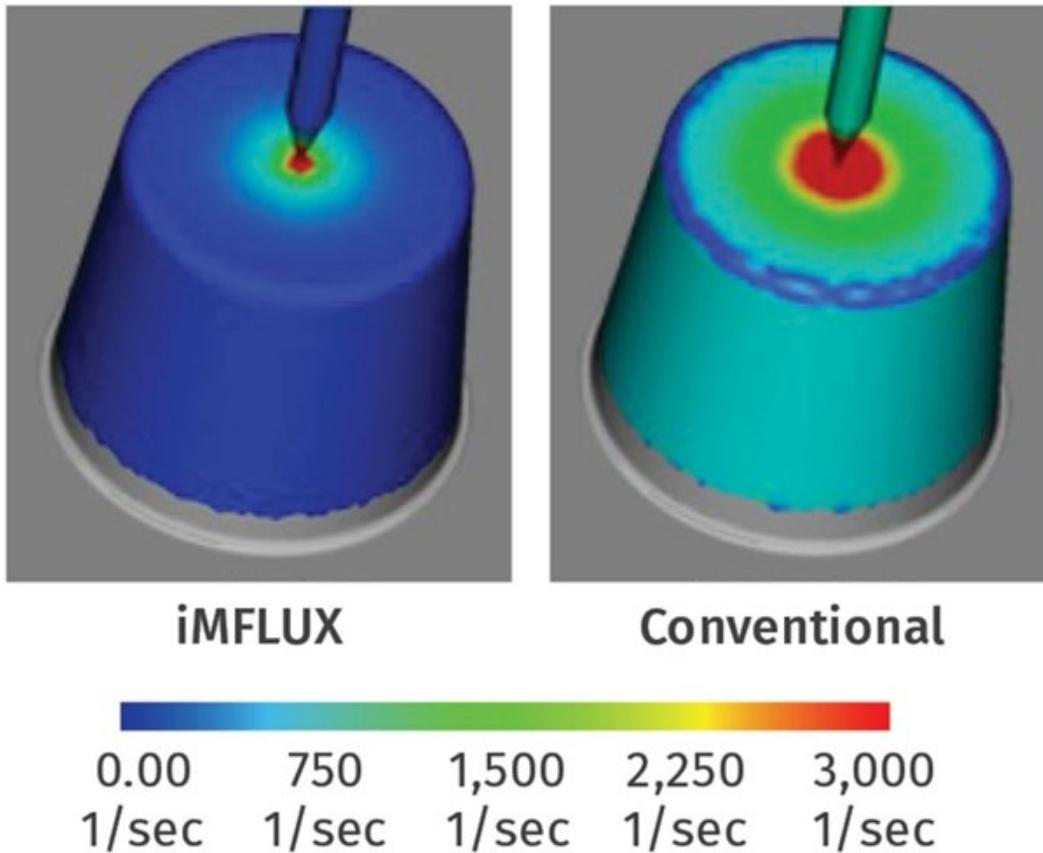

FIG 4 Simulation also shows reduced and more uniform shear throughout the part with iMFLUX.
- *Shear & heat-sensitive biomaterials:* Many bioderived and bio-composite materials are sensitive to high shear and heat. The use of low-constant-pressure filling results in a lower shear rate at the gate, and also reduces shear at high resistance points within the mold such as ribs, corners, undercuts, and living hinges. Figure 3 shows how the shear rate gradient is more uniform and lower than in a conventional decoupled process. Figure 4 shows a relative comparison of bulk shear rates in a dose cup part design, where shear is reduced at the gate and throughout the part. Furthermore, processing temperatures can be substantially reduced, and while filling pressure will increase slightly due to an increase in material viscosity it is still much lower than a traditional process. These characteristics of the low-constant-pressure process make it ideal for running shear and heat sensitive materials.